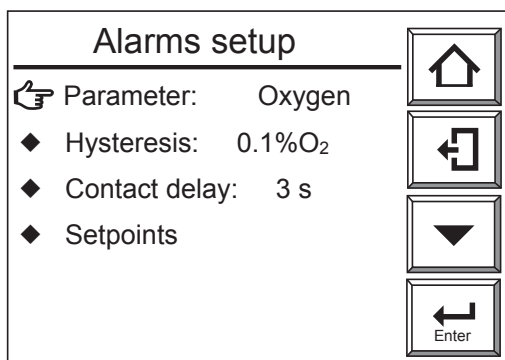
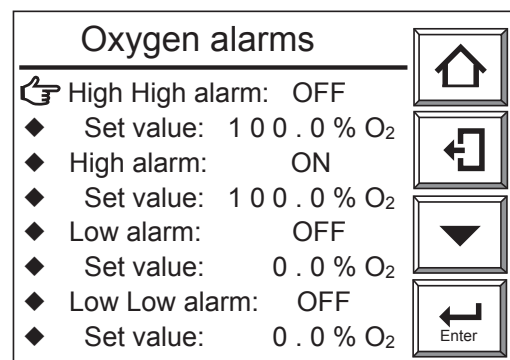

Figure 8.4 Alarms Setup Display
Figure 8.5 Oxygen Alarms Display
- (1) Press the [Setup] key in the Basic panel display to display the Execution/Setup display.
- (2) Select "Commissioning" in the Execution/Setup display. The Commissioning (Setup) display then appears.
- (3) Select the "Alarms setup" in the Commissioning (Setup) display. The Alarms setup display shown in Figure 8.4 then appears.
- (4) Select "Hysteresis" in the Alarms setup display. The numeric-data entry display then appears. Enter the desired hysteresis value as a percent of oxygen concentration. To set 2.5 vol%O₂, enter "0025." The hysteresis setting can be in the range of 0 to 9.9 vol%O₂.
- (5) Select the "Contact delay" in the Alarms setup display. The numeric-data entry display then appears. Enter the desired delay time, in seconds. To set three seconds, enter "003." The delay time setting can be in the range of 0 to 255 seconds.
- (6) Select the "Setpoints" in the Alarms setup display. The Oxygen alarms display then appears, as shown in Figure 8.5.
- (7) When you select "High alarm" in the Oxygen alarms display, the "OFF" or "ON" selection display then appears. If you select "ON," the High alarm will then be enabled (enable/disable).
- (8) To set the High alarm values select "Set value" just below the High alarm. The numeric-data entry display then appears. Enter the alarm set value (percent of oxygen concentration). If you want to set the alarm value to 10 vol%O₂, enter "010."
- (9) Set the other alarm settings in the same manner as in the steps above.